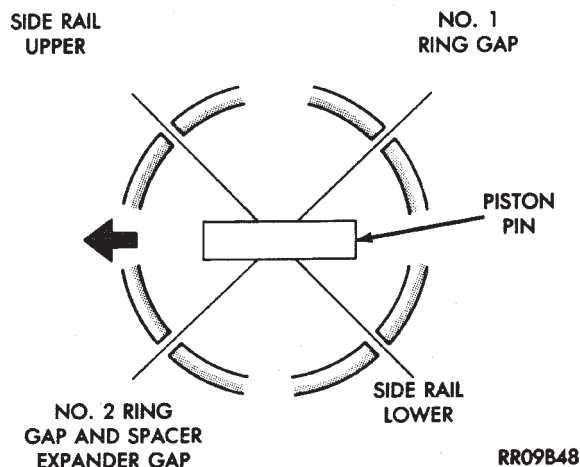

Fig. 15 Piston Ring End Gap Position
(10) Position piston ring end gaps as shown in (Fig. 15).
(11) Position oil ring expander gap at least 45° from the side rail gaps but **not** on the piston pin center or on the thrust direction. Staggering ring gap is important for oil control.